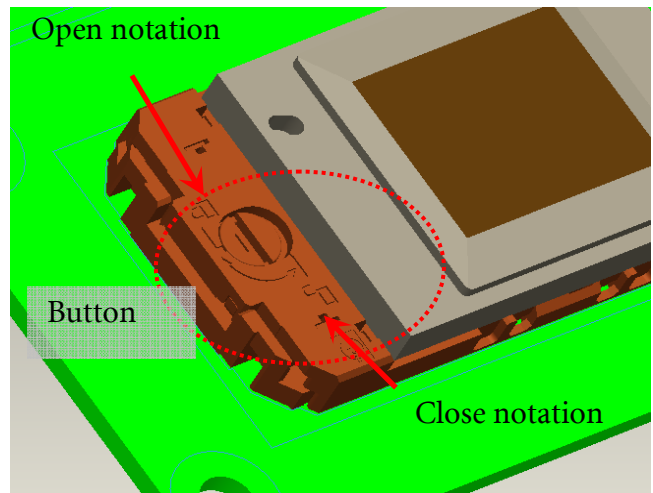

Fig. 4-4
- 4.3. Push DMD slightly and use screwdriver rotate clockwise button to lock (close notation) DMD on Chip B/D (Fig. 4-4).